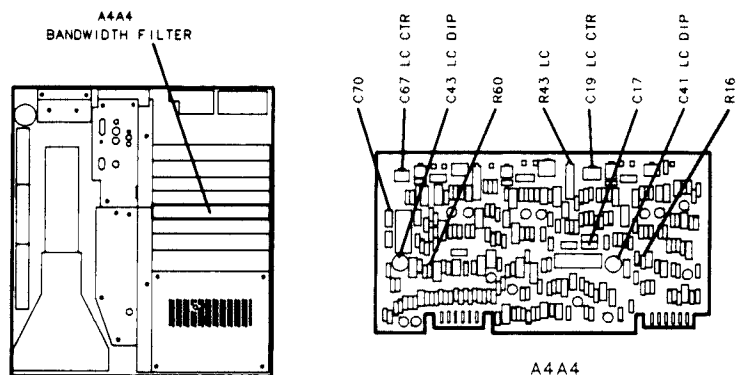

Figure 3-41.
9. Adjust A4A4C67 LC CTR and A4A4C19 LC CTR for maximum MARKER level as indicated by CRT annotation. See Figure 3-41 for location of adjustments. If unable to adjust LC CTR adjustments for satisfactory signal amplitude, increase or decrease value of A4A4C17 and A4A4C70. Refer to Table 3-3 for range of values.
12. Adjust A4A4R43 LC to align markers on display. **MARKER Δ** level should indicate 1.00 X. See Figure 3-41 for location of adjustment.
57. Adjust A4A4C41 LC DIP for minimum amplitude of signal peak. See Figure 3-41 for location of adjustment. Key in MARKER **(PEAK SEARCH)**, MARKER **(Δ)**, and then press MARKER **(PEAK SEARCH)** and re-adjust LC DIP to offset the signal peak approximately -17 kHz (to the left). This is done to compensate for operating the A4A4 Bandwidth Filter on extender boards. If unable to achieve a “dip” in signal amplitude, increase or decrease value of A4A4R16. Refer to Table 3-3 for range of values.
59. Adjust A4A4C43 LC DIP for minimum amplitude of signal peak. See Figure 3-41 for location of adjustment. Key in MARKER **(PEAK SEARCH)** MARKER **(Δ)**, and then press MARKER **(PEAK SEARCH)** and re-adjust LC DIP to offset the signal peak approximately -17 kHz (to the left). If unable to achieve a “dip” in signal amplitude, increase or decrease value of A4A4R60. Refer to Table 3-3 for range of values.